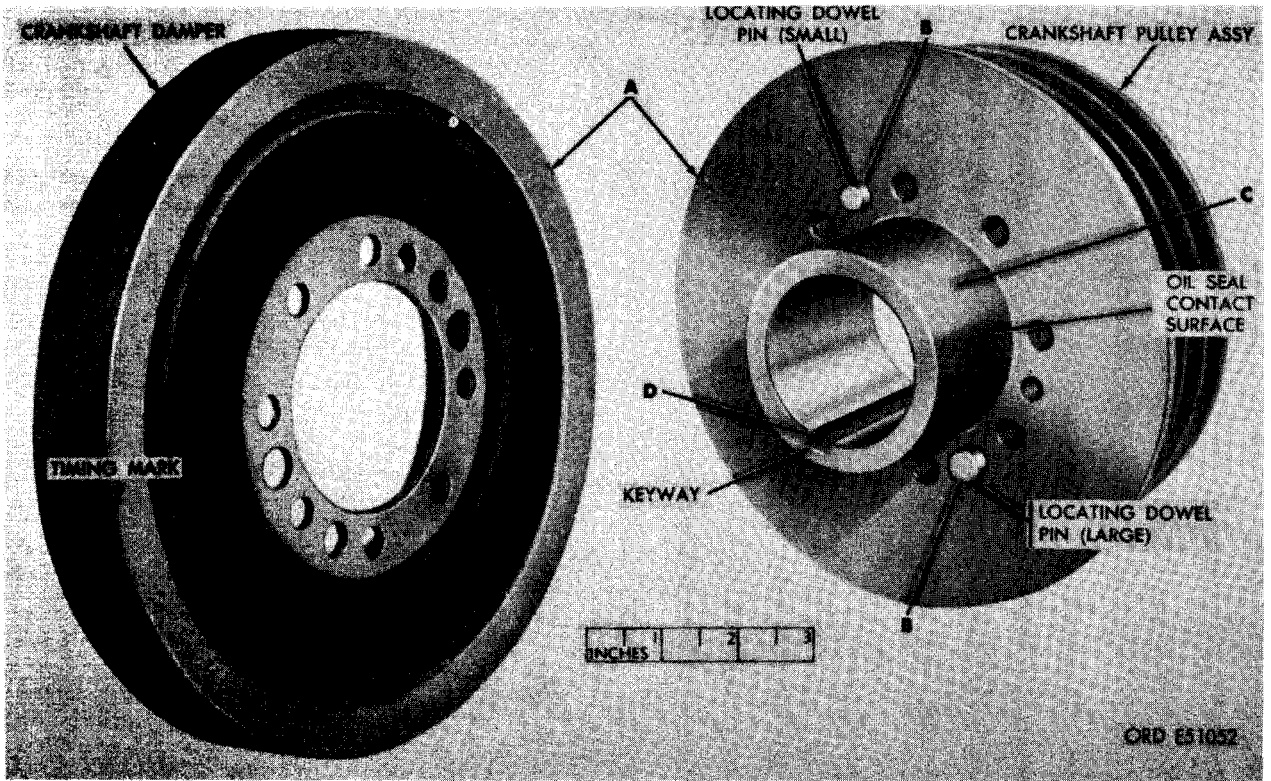

FIGURE 205. DISASSEMBLING, ASSEMBLING, AND INSPECTING CRANKSHAFT DAMPER AND PULLEY ASSEMBLY.
- (2) Figure 205. (A) Separate the crankshaft damper from the crankshaft pulley assembly. (B) Inspect locating dowel pins and mating holes for damage. Replace damaged pins. (C) Inspect oil seal contact surface for nicks or burs which may damage oil seal. Remove minor damage with crocus cloth soaked in dry-cleaning solvent or mineral spirits paint thinner. (D) Check keyway for burs or damage.